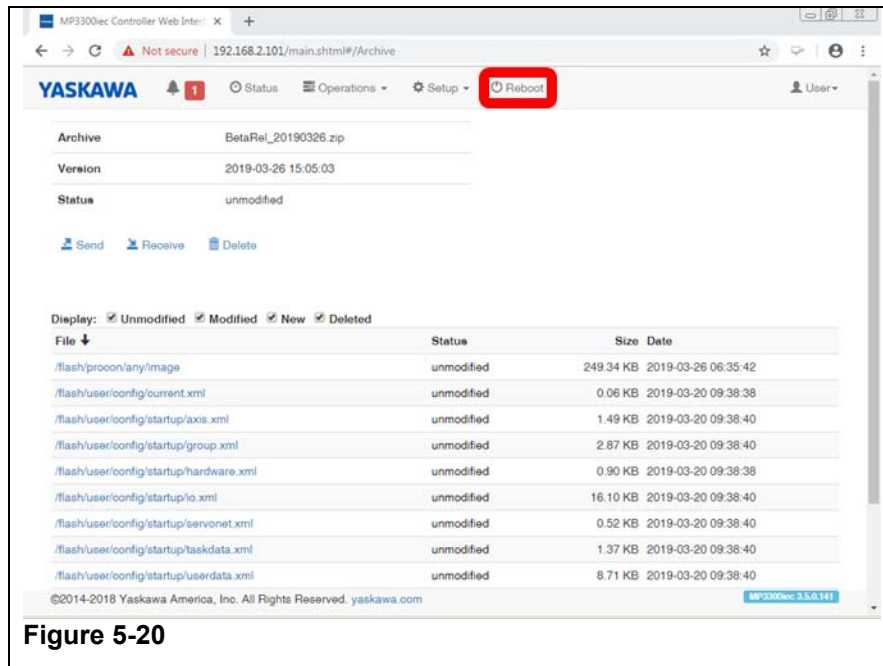

Figure 5-20
- vii. On the upper menu bar, press the 'Reboot' button. (Refer to Figure 5-20)